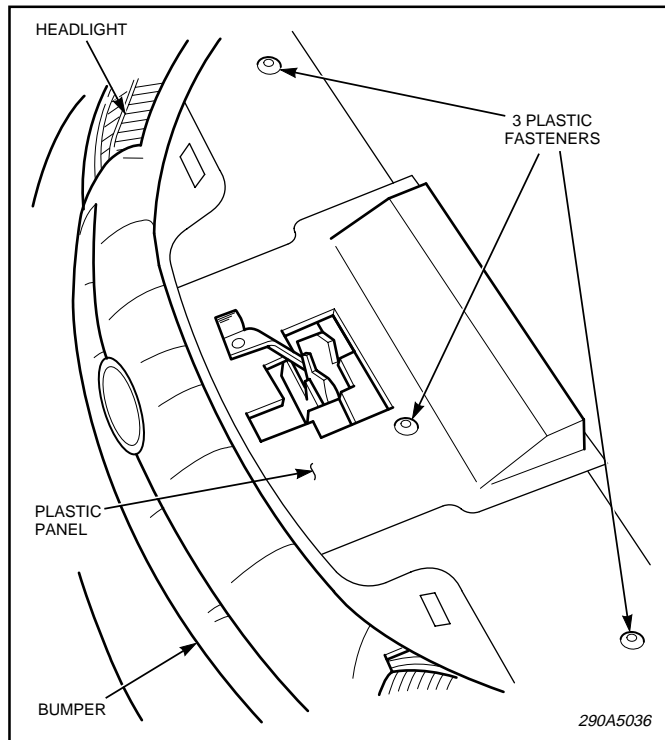

Figure 1.
1. Raise the vehicle hood. See figure 1. Locate the plastic panel between the radiator crossbar and the grill fascia.
10. See figure 1. Replace the plastic panel (removed in step 2) and secure in position using the previously removed plastic quarter-turn fasteners.